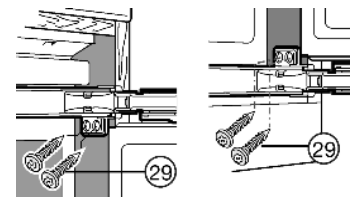

Fig. 22
- ▶ On both doors fit Spax screws Fig. 22 (29) through the plates of the upper and lower hinges.